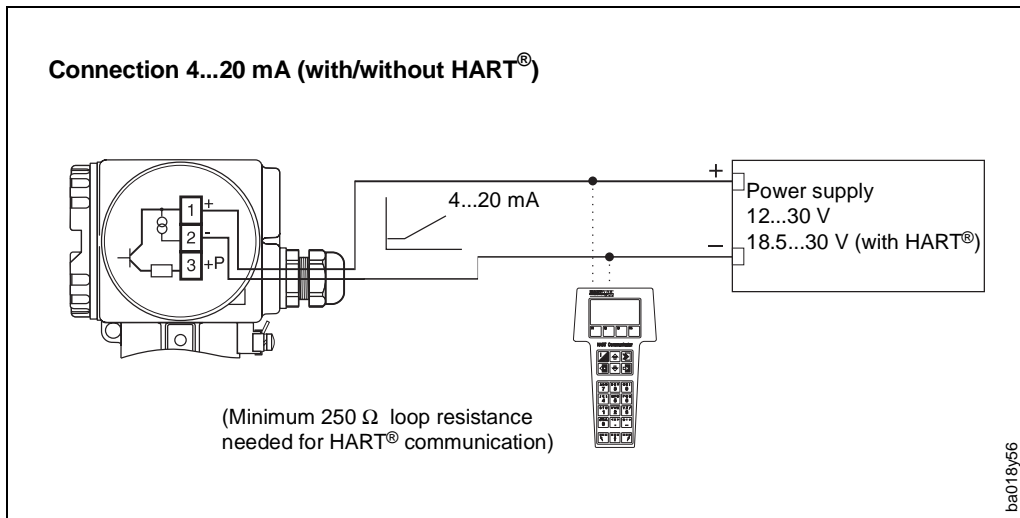

Fig. 17: Multiple outputs 4...20 mA and open collector (with/without HART)
3. Wire up according to the wiring diagrams (see diagram in the screw cover or Fig. 17, 18, 19)